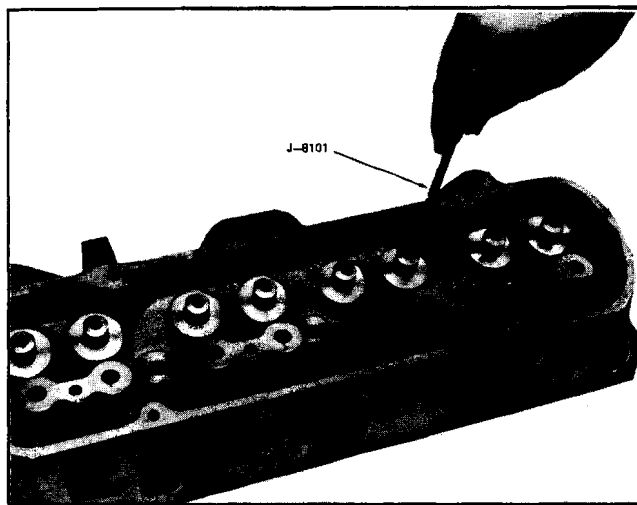

Fig. 6-116 Cleaning Valve Guide
4. Clean valve guides thoroughly, using valve guide cleaner J 8101 (Fig. 6-116).